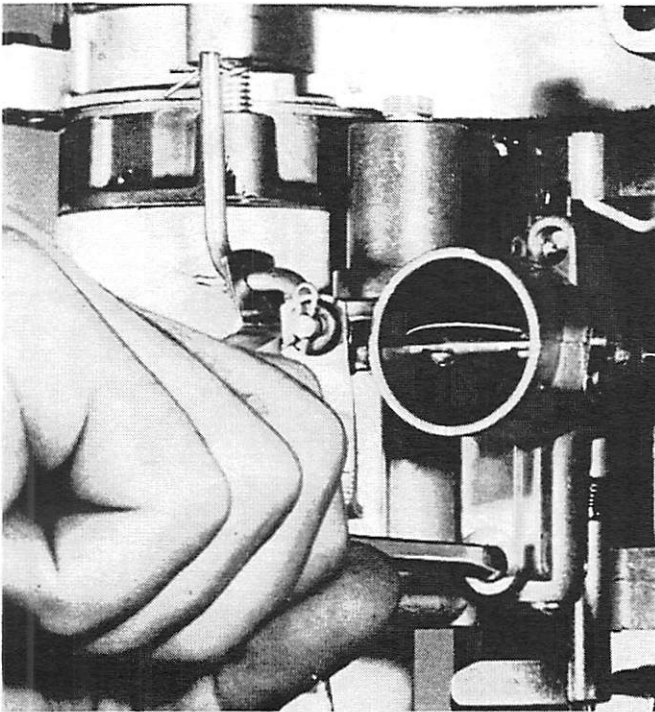

Figure 4. Removing Fixed Jet
2. Remove fixed jet and gasket with Fixed Jet Screwdriver (C-91-29795) or standard screwdriver of exact size. (Figure 4)